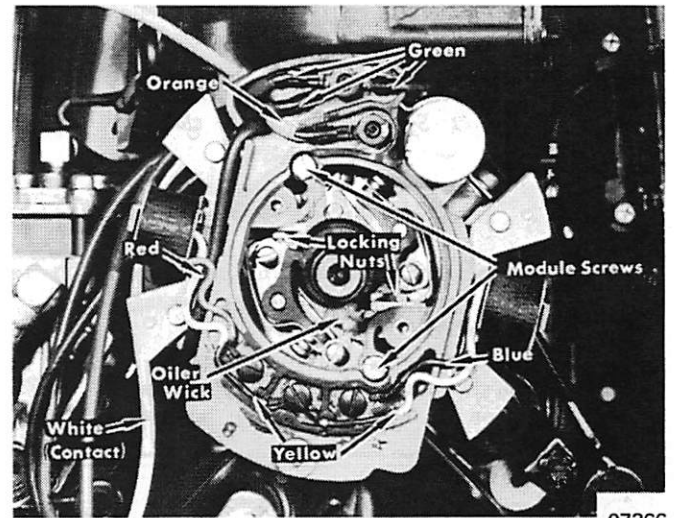

Figure 3. Ignition Wire Connection
8. To replace points, remove 1/4" spring locking nut and 2 screws from each point set. (Figure 3)
10. Remove module by disconnecting 2 nuts, which hold coil leads, and 3 screws which hold stator leads. Remove 2 screws and module will come loose. (Figure 3)
1. Using Magneto Analyzer scale No. 2, check resistance of brown and white wires from wire to point insulator. (Figure 3)